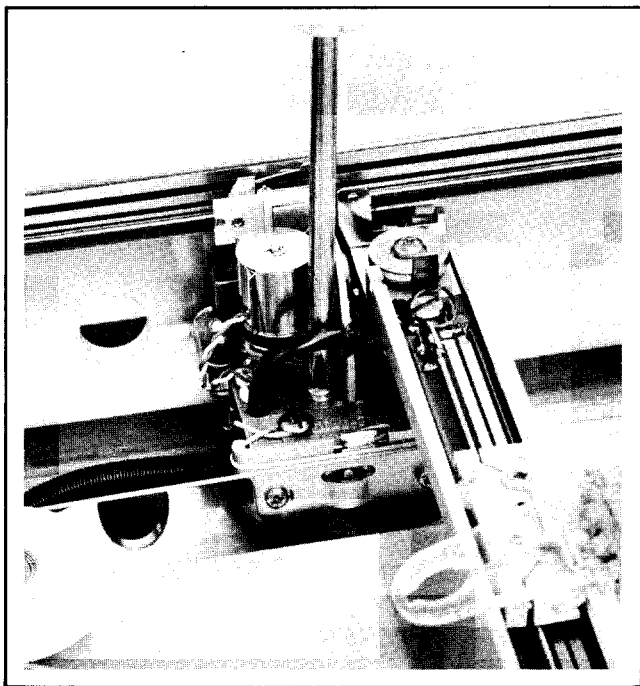

FIGURE 3-15. Y-AXIS MOTOR CLAMP SCREW
- g. Slightly loosen motor clamping screw located in center of motor block (Figure 3-15). Rotate motor slightly, first in one direction and then the other, while moving pen gear back and forth, until motor pinion rotates freely with minimum backlash. This procedure varies mesh between motor pinion and pen drive gear due to an eccentric mounting shoulder. A slight amount of backlash is desirable for optimum operation.